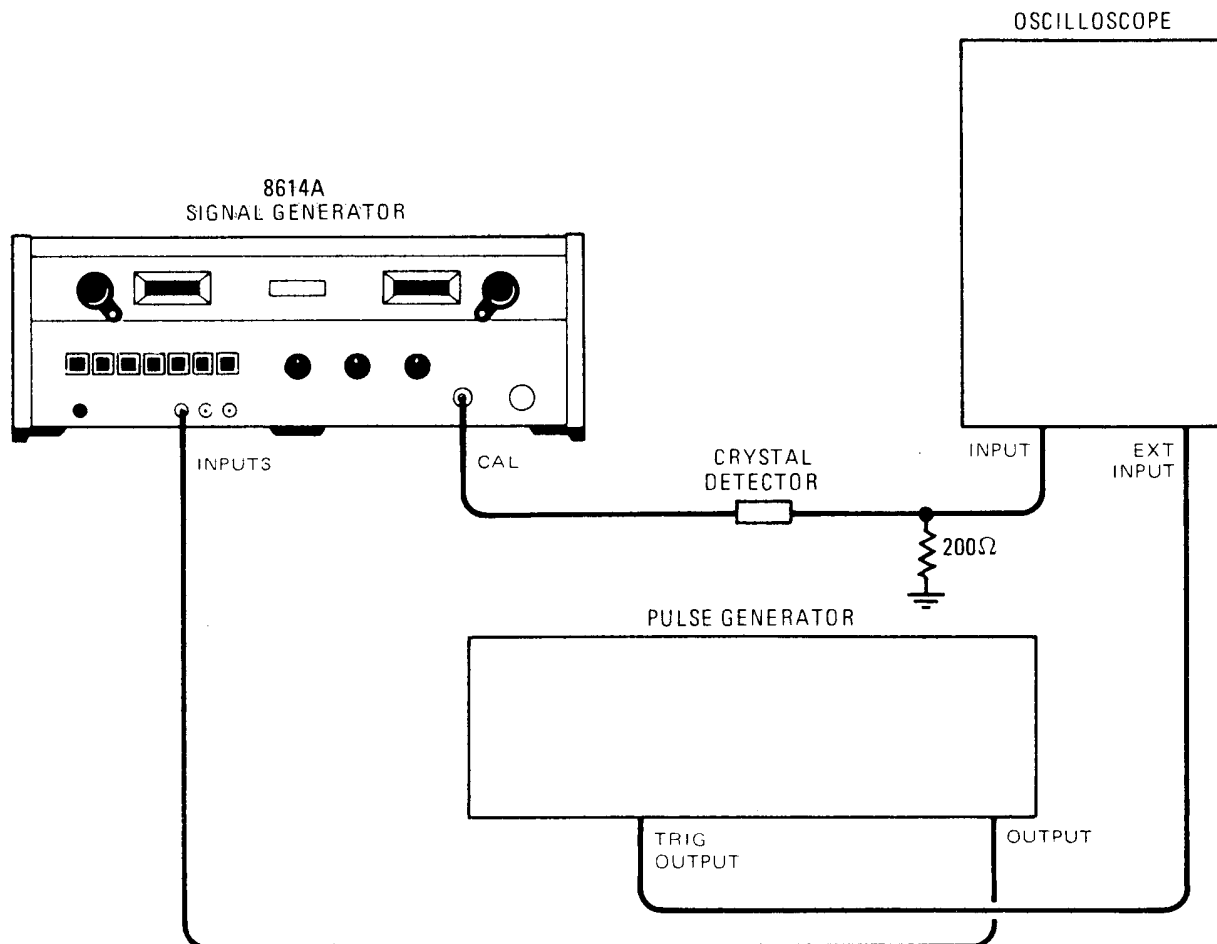

Figure 5-2. External Pulse Check
- a. Connect instruments as shown in Figure 5-2.
- e. To check external synchronization, connect equipment as shown in Figure 5-2.